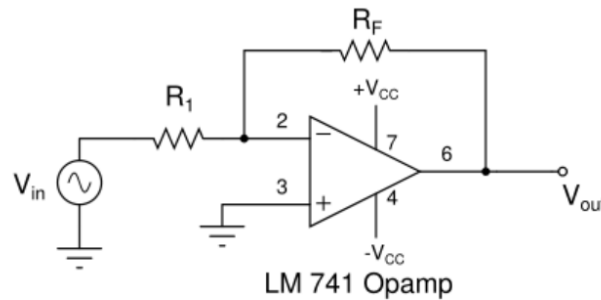

Fig. 3 Op amp inverting amplifier
- c. Connect  $V_{in}$  to the circuit as shown in Fig. 3 and connect it also to DSO CH1.